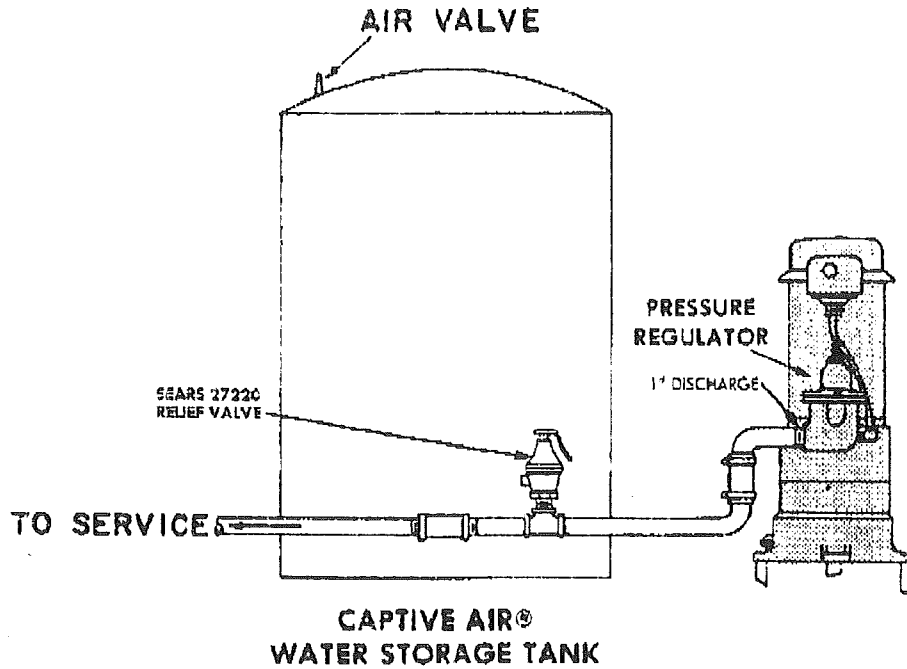
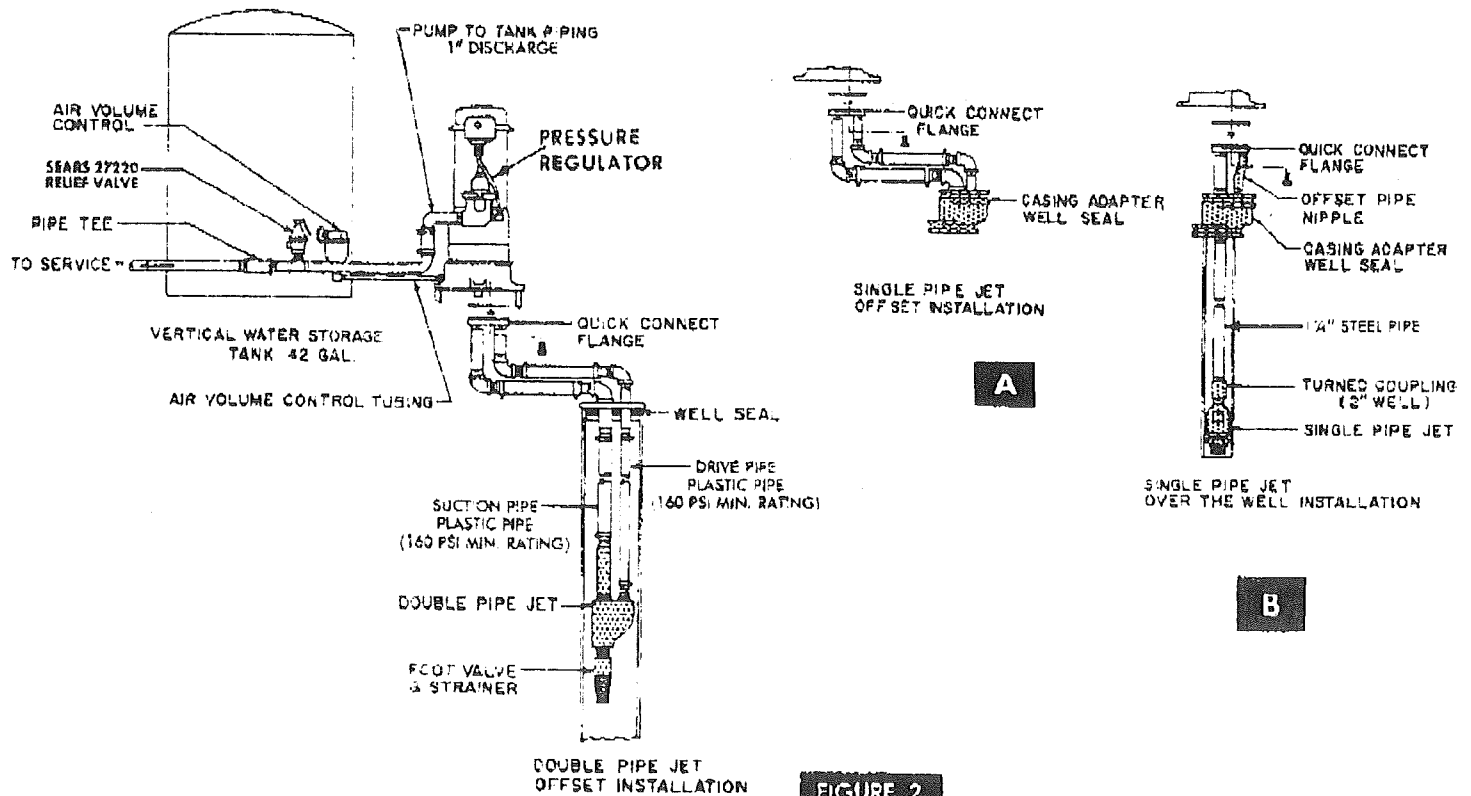

FIGURE 1
FIGURE 2
5. To protect system against over-pressure, install a pressure relief valve able to pass full system flow at 75 pounds per square inch pressure (Sears Stock No. 27220). See Figures 1 and 2 for installation.
On installations, as shown in Fig. 2 (A) (B), Page 3, the flange is assembled to the piping and the pump is attached with gasket and hardware provided.
The Sears deep well jet pump can be side mounted on either the SEARS glass-lined tank, or a standard SEARS vertical tank, using the pump to tank mounting kit #2788, available as an accessory. Figure 2, Page 3, shows a typical installation using this method. To prevent overpressure, install a Sears Stock No. 27220 safety pressure relief valve as close to the tank as possible.
SEARS jet pumps can be used with either standard vertical tanks or with SEARS Captive Air™ Tanks. See figure 1 and Figure 2, Page 3.